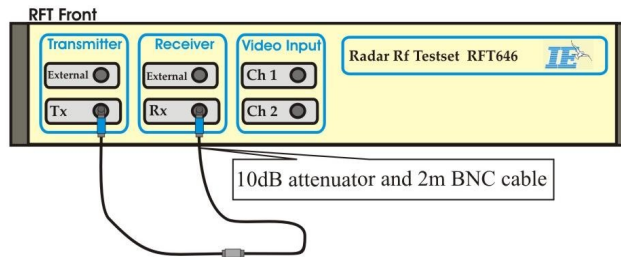

Figure 6: RFT646 connections for VNA transmission measurement
2. The first time the tool is started, it will automatically perform a reference measurement, it is therefore important that the device under test is removed and that the Tx and Rx are connected together with a barrel as shown in figure 6. Now start the tool by clicking the  **Start** button. You will notice that the  **Take Reference** button is automatically dimmed as well. When required you can always perform a reference measurement in between measurements by clicking the **Take Reference**
4. Now the DUT or the transmission chain can be inserted as shown in figure 6. When the DUT is connected, it is probable that a measurement sweep was already taking place. The next sweep provides the correct result.
This paragraph shows an example of a transmission measurement. The DUT of the example is a transmission chain containing two 4m BNC RG223 cables, connected with a straight BNC barrel (total of 8m). Replace the BNC barrel in figure 6 with the two 4m cables when the reference measurement is done. The transfer function is presented in the frequency domain like a Bode diagram.
The connections are identical as shown in figure 6, the only difference is the DUT itself. Check Annex 6.1. for the full set-up diagram.